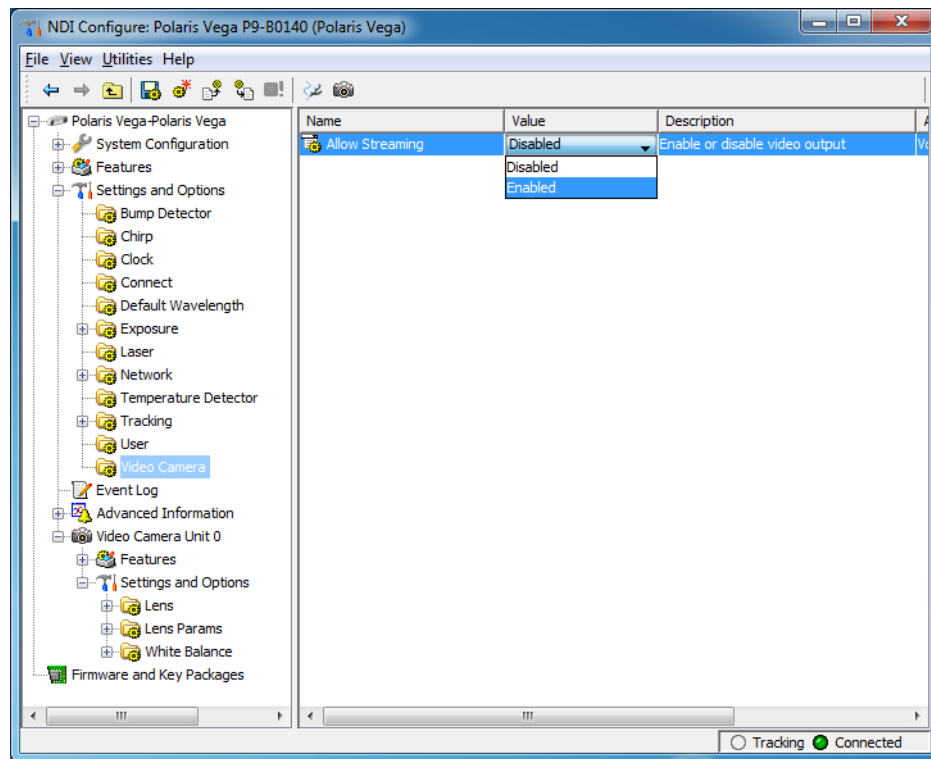

Figure 6-2 Enabling video streaming
- In the ToolBox Configure utility, expand the **Polaris Vega** node. Navigate to **Settings and Options> Video Camera** and set the **Allow Streaming** option to **Enabled**. See Figure 6-2 on page 53.